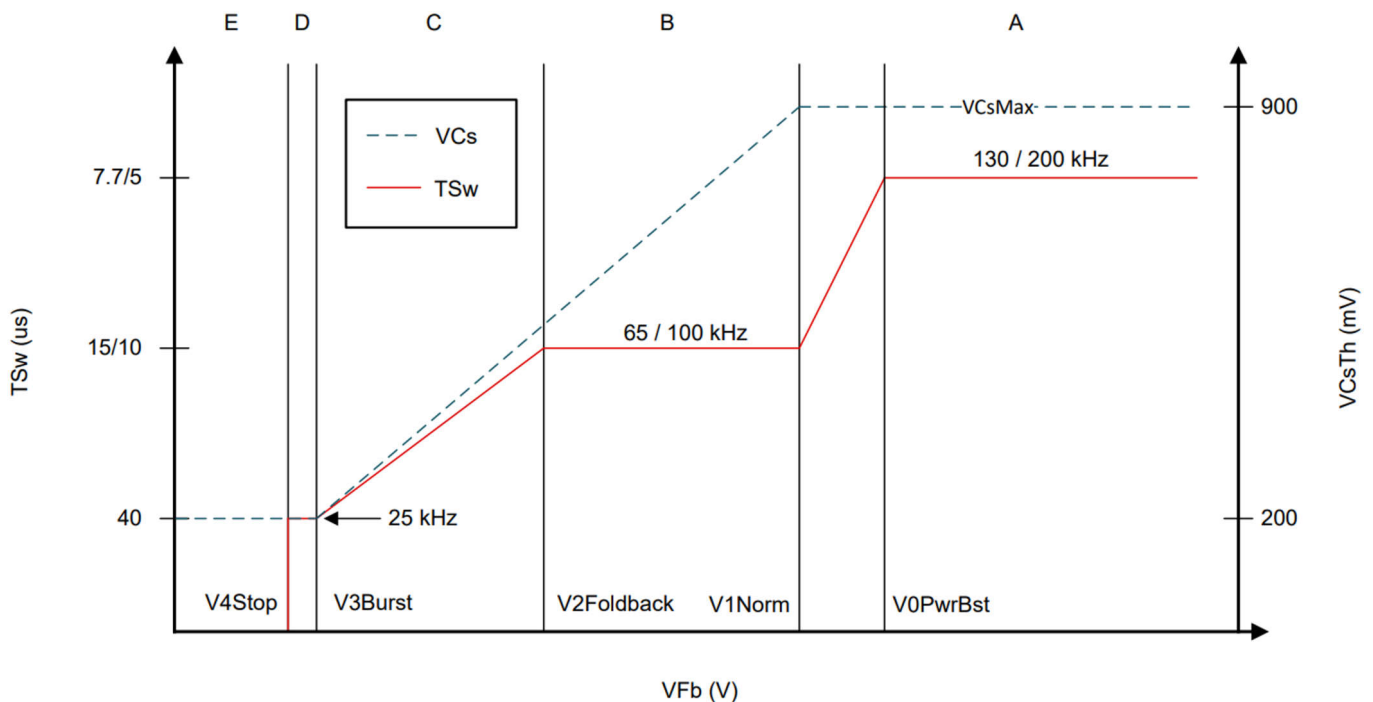

Figure 4-1. IC Control Law
3. IC supports the power boost mode to increase the switching frequency up to two times so IC can avoid the transformer saturation during peak load, and the IC control law as Figure 4-1.